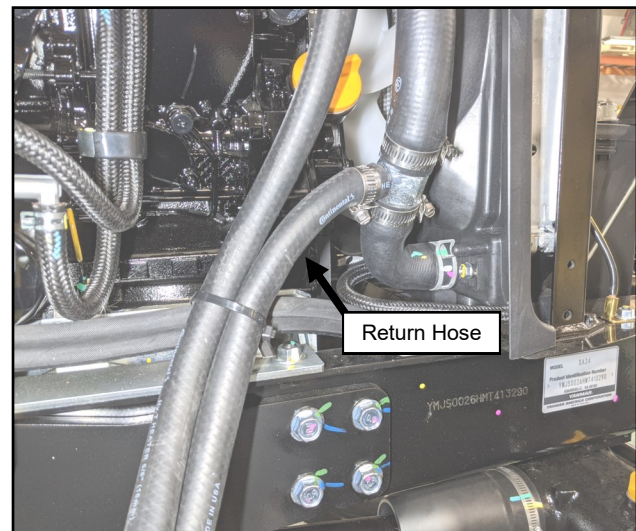

Fig. 18.13 (Heater Return Hose to Tee)
- 18.13** Connect the other end of the hose to the tee fitting with a small hose clamp. See Figure 18.13.